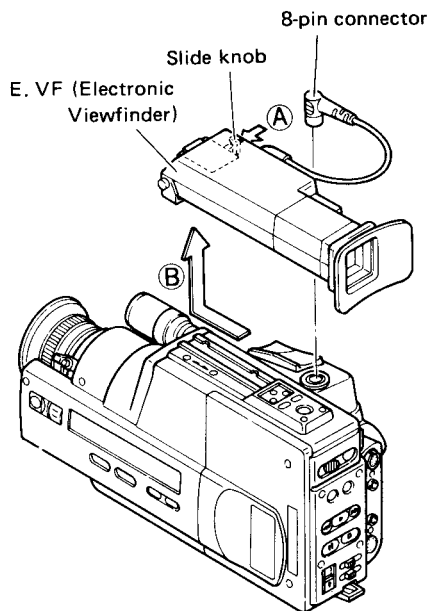

Fig. 1-1-1
1. Disconnect the 8-pin connector as shown in Fig. 1-1-1. Slightly pressing the slide knob in the direction of (A), move the electronic viewfinder in the direction of (B) to remove it.